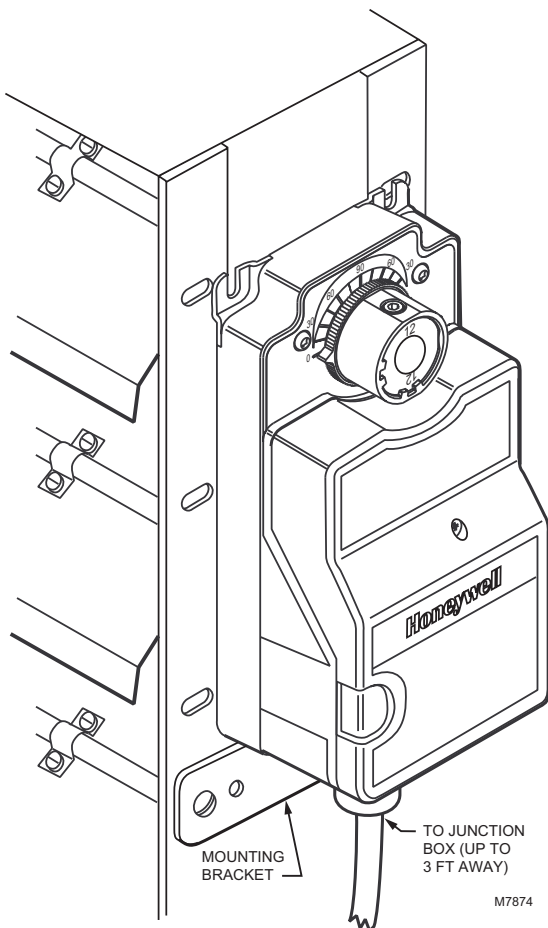
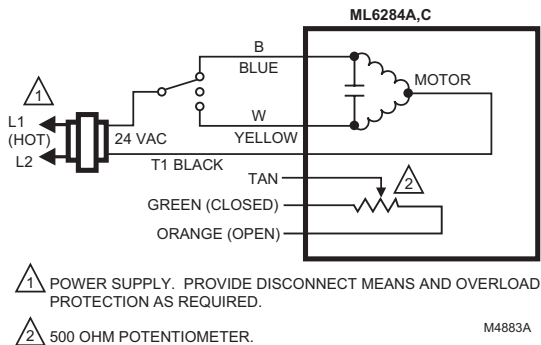

Fig. 4. ML6284 Actuator typical mechanical connection.
Fig. 5. ML6284A,C typical wiring diagram.
A typical actuator mechanical connection is shown in Fig. 4; wiring diagrams in Fig. 5 through 10.
All wiring must comply with local electrical codes, ordinances and regulations. The ML6284 is designed for use with a Class 2 power supply. Voltage and frequency of the transformer used must correspond with the characteristics of the motor and those of the power supply. Standard electrical connection is shown in Fig. 4. See Fig. 5 and 6 for typical wiring connections.
2. If the actuator has time-out function, apply 24 Vac to black (T1) lead and red (T2) lead. See Fig. 5.
3. Apply 24 Vac control signal to blue (B) lead with respect to black (T1) lead (see Fig. 5). Actuator should drive damper open.
4. Apply 24 Vac control signal to yellow (W) lead with respect to black (T1) lead (see Fig. 5). Actuator should drive damper closed.